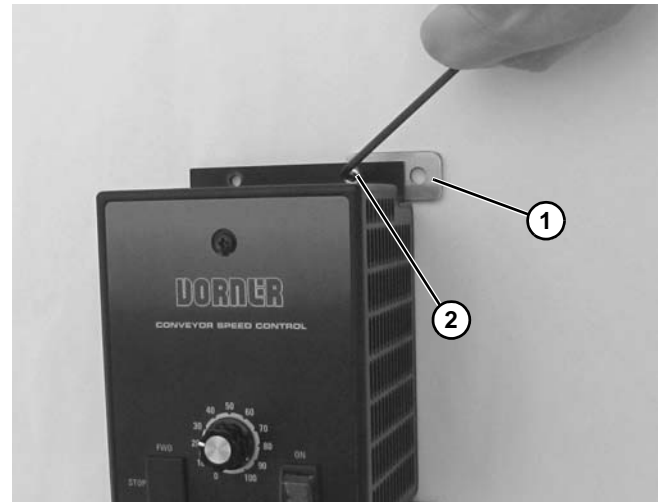

Figure 22
1. Assemble mounting clips (Figure 22, item 1) with screws (Figure 22, item 2) to the side of the controller.